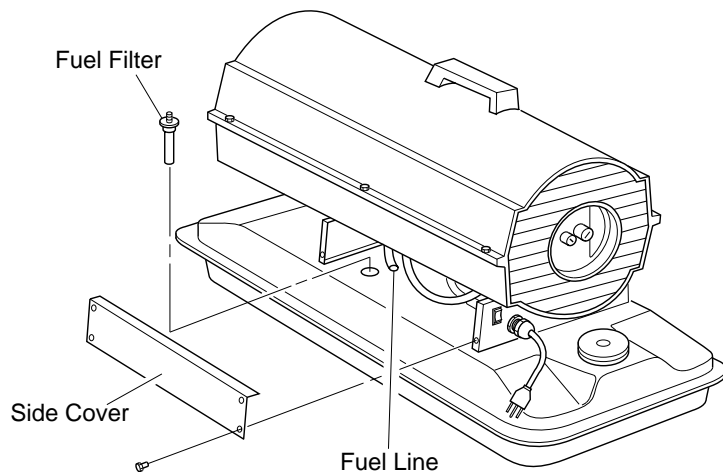

Figure 9 - Fuel Filter Removal, B35CEL and B70CEL Models
3. Remove 4 side cover screws with a 5/16" nut driver. Remove side cover (see Figure 9 or 10, page 8).
12. Replace side cover (see Figure 9 or 10, page 8).